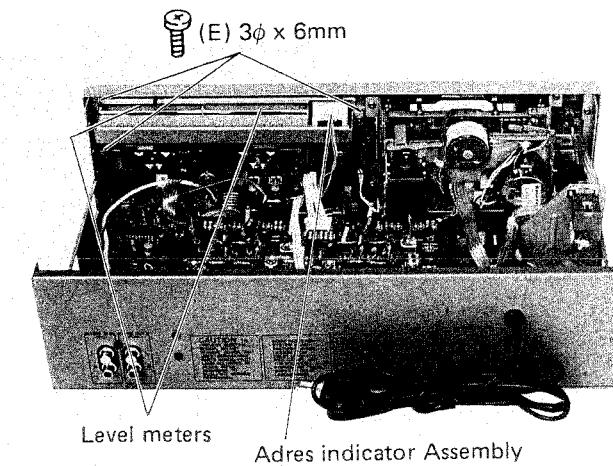

Figure 9
4. Remove three screws (E) on the mounting plate. The adres indicator and the meters can be removed. See Figure 9.